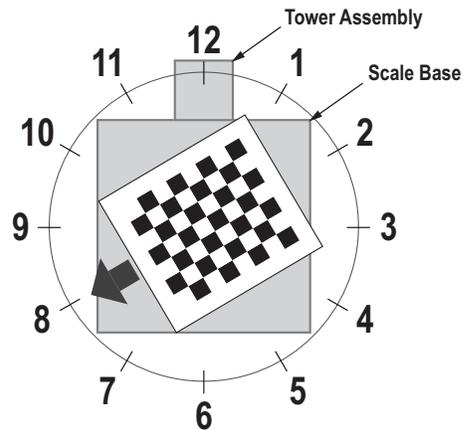

Figure 7-12. Rotate to 8 o'clock
13. Align calibration object so the cross hairs are centered. Rotate the calibration object to 8 o'clock with the tower assembly being at 12 o'clock (Figure 7-12).